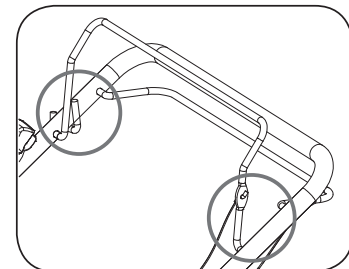

Figure 19
1. Lubricate pivot points on the blade and drive controls at least once a season with light oil. These controls must operate freely in both directions. (See **Figure 19**)